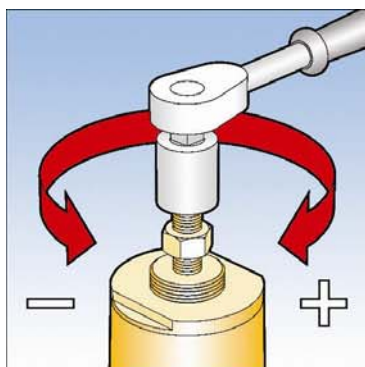

Fig. 5
4. For H.P. 65mm and 80mm unit and L.P. 100mm and 150mm unit, slacken locknut on spring adjusting stem and connect suitable spanner (24mm A/F) to hexagon of spring adjusting stem. See Fig. 5.